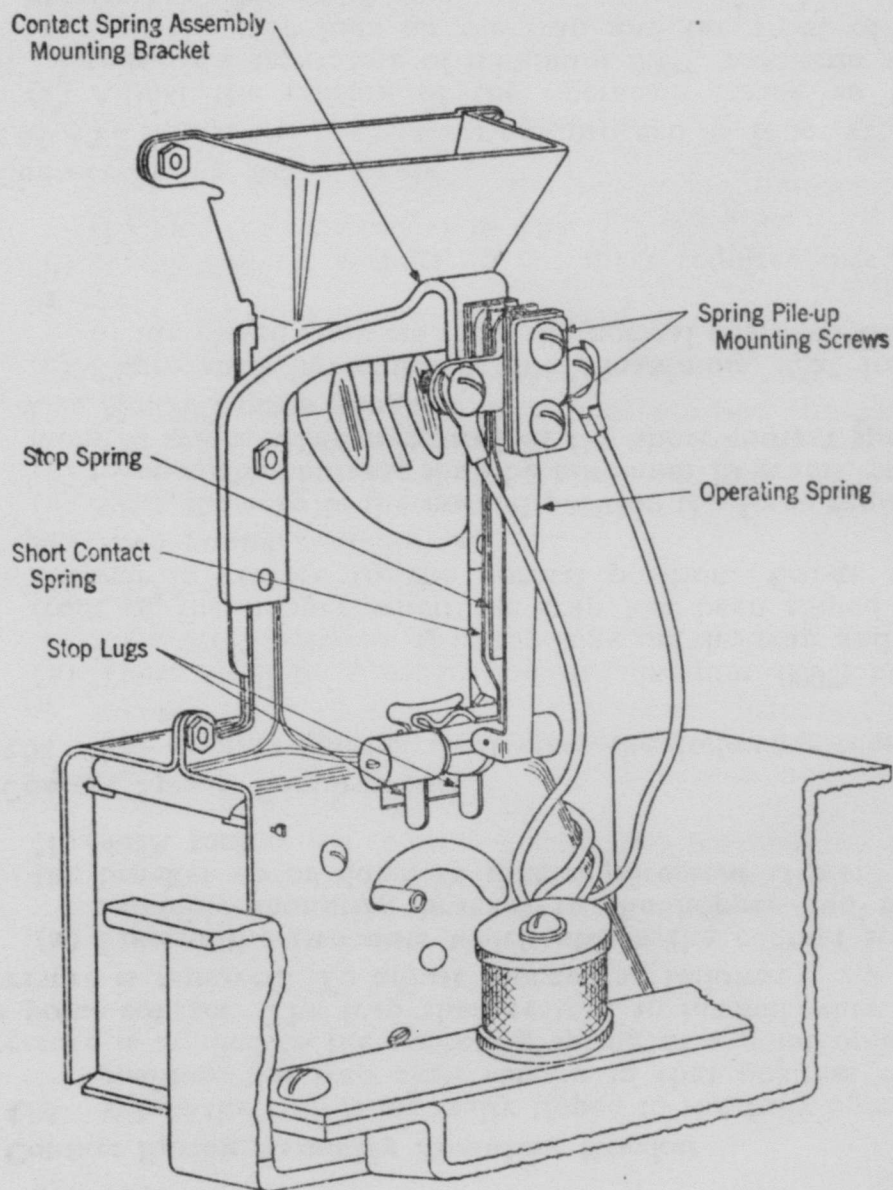

Fig. 10.
4. COIN HOPPER (150U, 150W, 163A AND 163B COIN COLLECTORS ONLY. SEE FIG. 10)